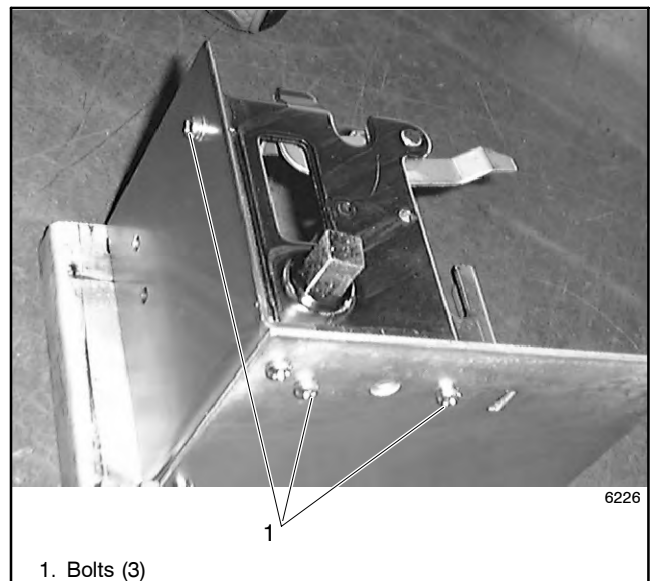

Figure 7-26 Side Plate Bolts
5. Loosen three bolts shown in Figure 7-26, remove the side plate, and replace the trip coil. See Figure 7-26.